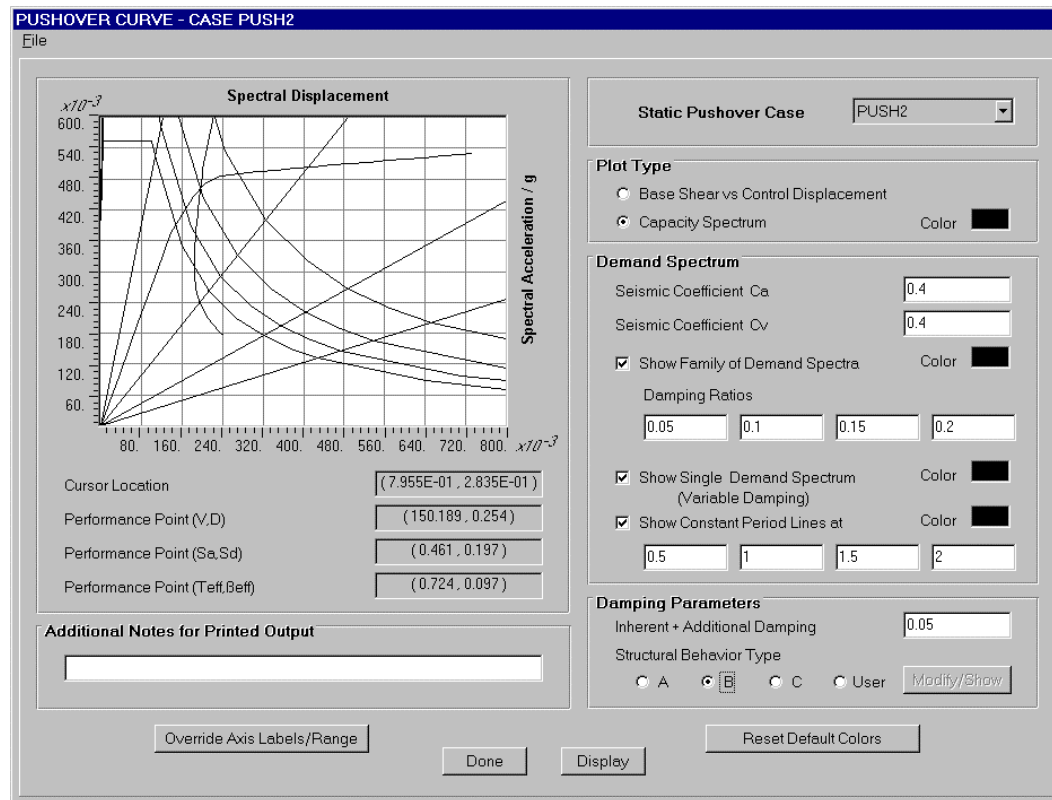

Figure D-8: Capacity spectrum For Pushover Load Case PUSH2
17. Select the Capacity Spectrum option in the Plot Type area. As shown in Figure D-8, the plot changes and the Demand Spectrum area and the Damping Parameters area are now active.